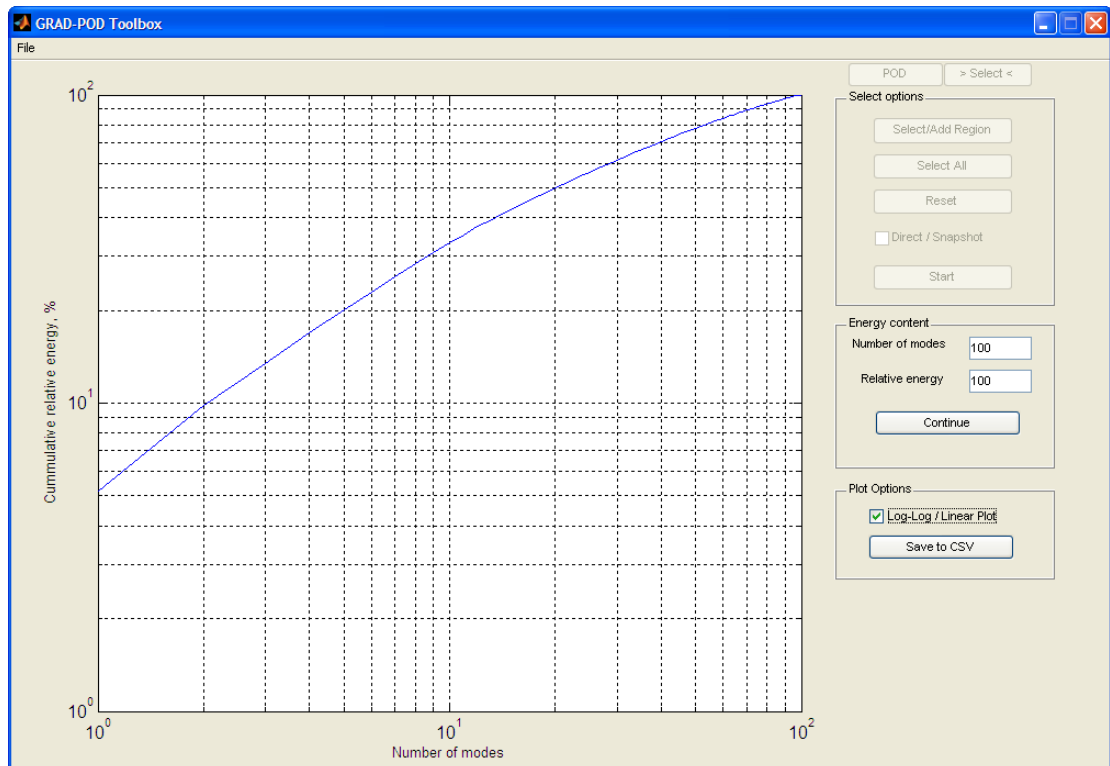
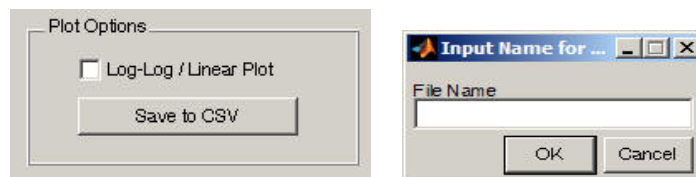

Figure 10: Energy plot using log-log notation
Figure 11: Plot options field and file name dialog.
- Energy plot can be switched to log-log (Figure 10) notation using the checkbox in plot options field (Figure 11).
- Energy plot can be saved to CSV file using 'Save to CSV' button (Figure 11). When pressed, user will be asked for the filename to save: